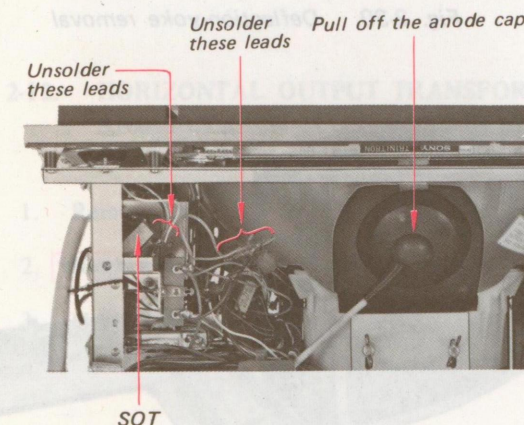

Fig. 2-25. Picture-tube removal, Steps 4 and 5
4. Unsolder three leads (green, white and yellow) that are connected to SOT. See Fig. 2-25.
5. Unsolder three leads (two red and a purple) that are connected to the 6-pin terminal board. See Fig. 2-25.